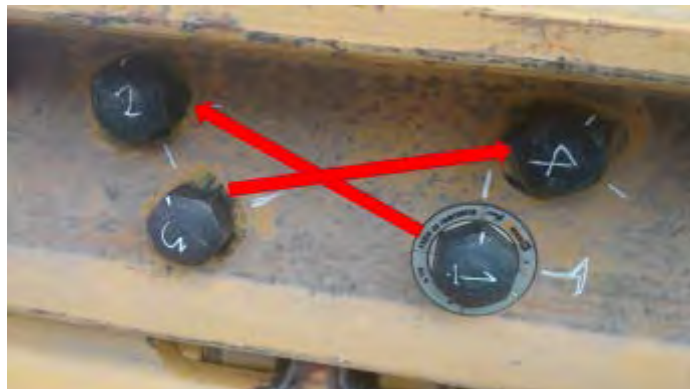

Fig. 3. Pre-torque and grades application sequence
- Perform the procedure for all the bolts in the same order of the pre-torque application (see Fig. 3).